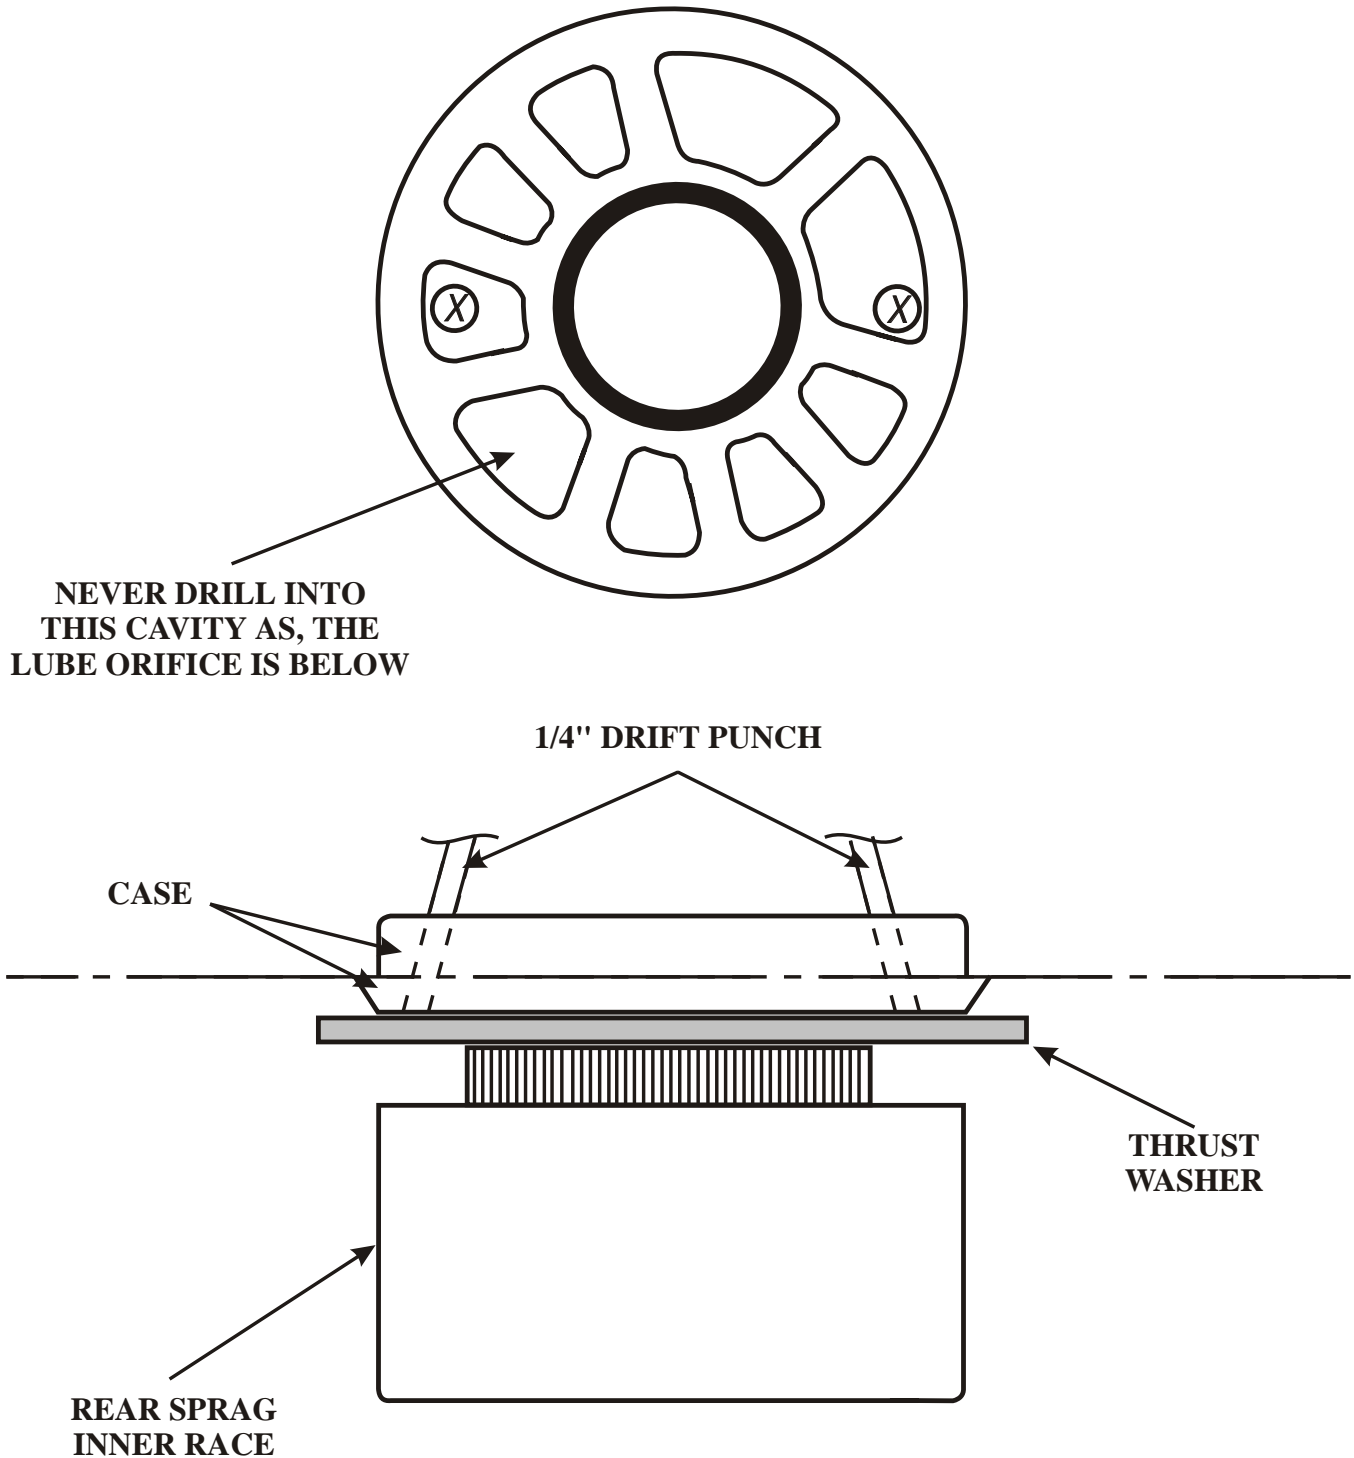

Figure 2
2. Using a 1/4" drill bit, with an approximate 30 degree angle outward, drill two holes through the case at both locations marked with the "X", as shown in Figure 2. You may want to practice on a scrap case first.
3. After verifying that the holes drilled have hit the steel inner race, use a 1/4" drift punch to drive the inner race from the case. Alternate from one side to the other until the race has been removed (See Figure 2).